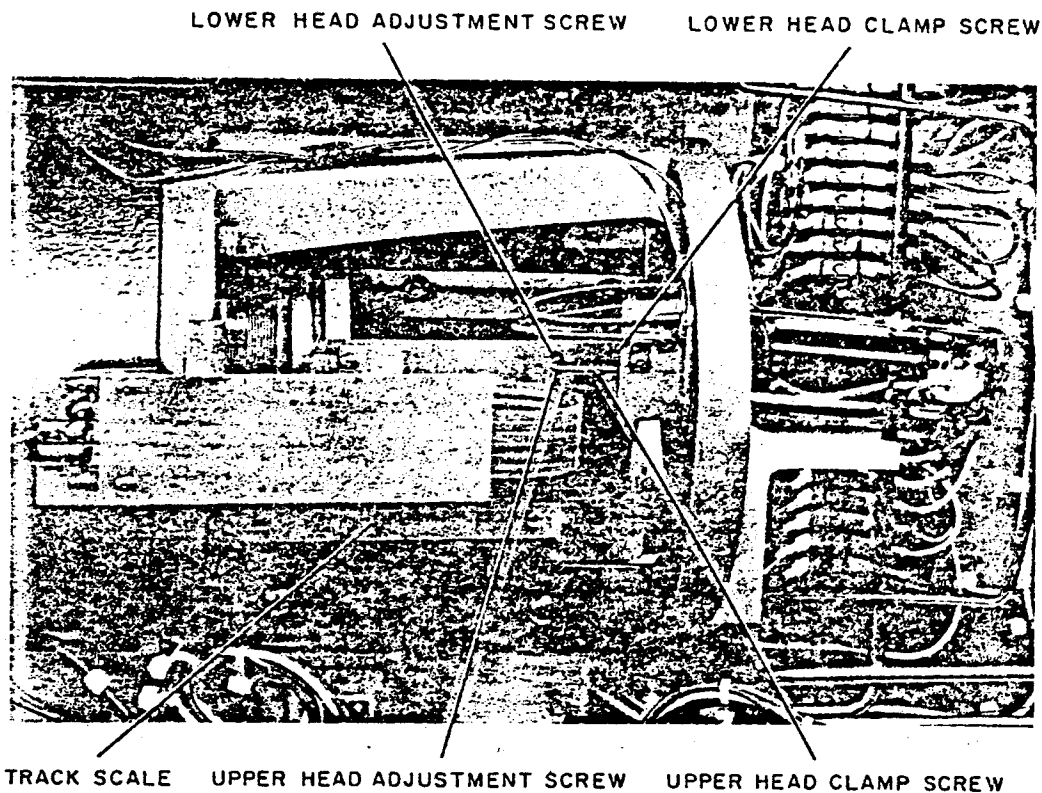

Figure 10
- Loosen the clamp and adjustment screws (Figure 10) and move the head in the appropriate direction until the "right on" waveform is obtained and the scale indication is slightly greater than 105.